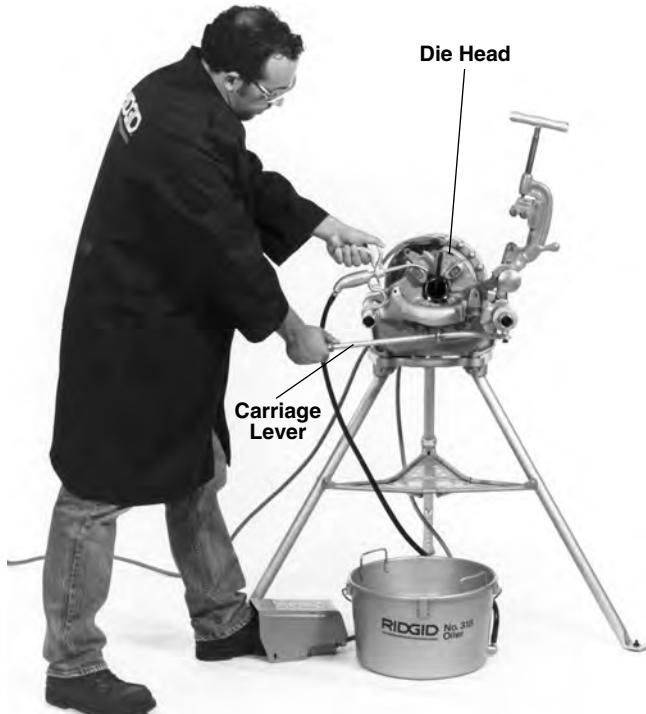

Figure 11 – Threading Pipe with Quick or Self-Opening Die Head
4. Assume the correct operating posture (Figure 11).
1. Check to insure the cutter and reamer are to the rear of the carriage (*Figure 11*).